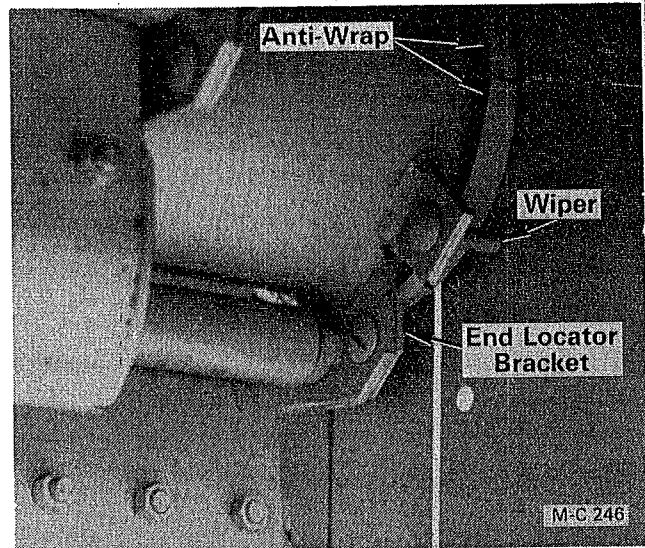

Figure 41
- Check the position of the two wipers (180° apart) at the end of the rotor, see Figure 41. They should be as close to the anti-wrap as possible without touching it. The wiper prevents material from building up on the anti-wrap. If necessary, loosen the wiper locknut and reposition the wiper in the adjusting slot.
7. Check the position of the two wipers (180° apart) at the end of the rotor, see Figure 41. They should be as close to the anti-wrap as possible without touching it. The wiper prevents material from building up on the anti-wrap. If necessary, loosen the wiper locknut and reposition the wiper in the adjusting slot.